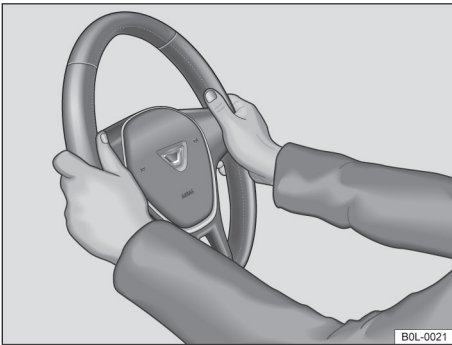

Fig. 54 On the steering wheel: 9 o'clock and 3 o'clock positions
- Adjust the steering wheel to the appropriate position, the driver slightly bent elbow can be held in the steering wheel rim at the *Nine o'clock and three o'clock positions* → Fig. 54.
- When driving, the driver must always keep both hands on the steering wheel rim at the *Nine o'clock and three o'clock positions* → Fig. 54 to reduce the degree of injury to the driver when the driver's front airbag is triggered.